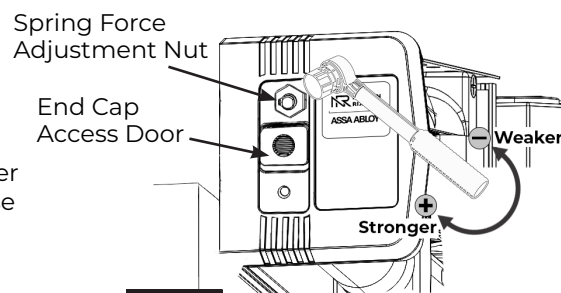

Figure 27
3. Using a ratchet with an 11/16" socket, turn the nut in end of closer body tube clockwise to increase or counterclockwise to decrease force until the desired setting is reached. (Figure 27)